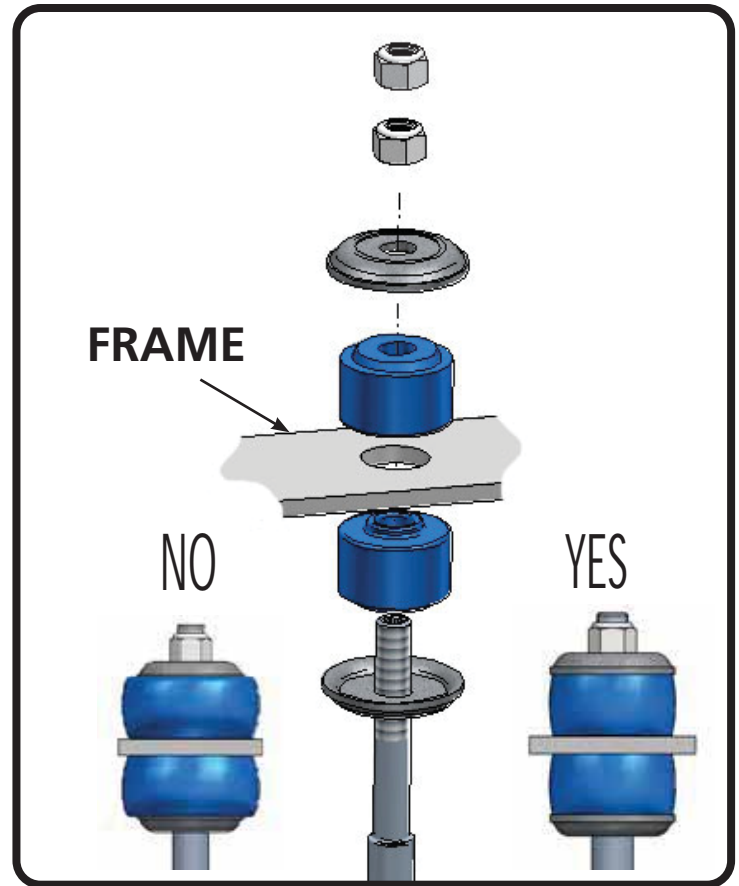

Figure 1
2. With the OEM shock removed, install the Ridetech shock. Remove the adjuster knob by loosening the set screw using the supplied Hex Key. Install a Bushing Support Washer on to the shock shaft followed by a Shock Stem Bushing (Figure 1).
**NOTE:** The Bushing should be tight, but not to the point that the bushing is bulging past the Support Washer (Figure 1).